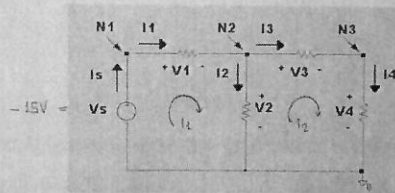

Figure 2.
- Using 10K ohm resistors, build the circuit in Figure 2 on your protoboard. Take care to lay out your circuit neatly, using wires of proper length where needed. Before connecting power to your circuit, adjust your power supply to ~~12 volts~~ 15 volts. Have an instructor look over your circuit before you apply power to your circuit.